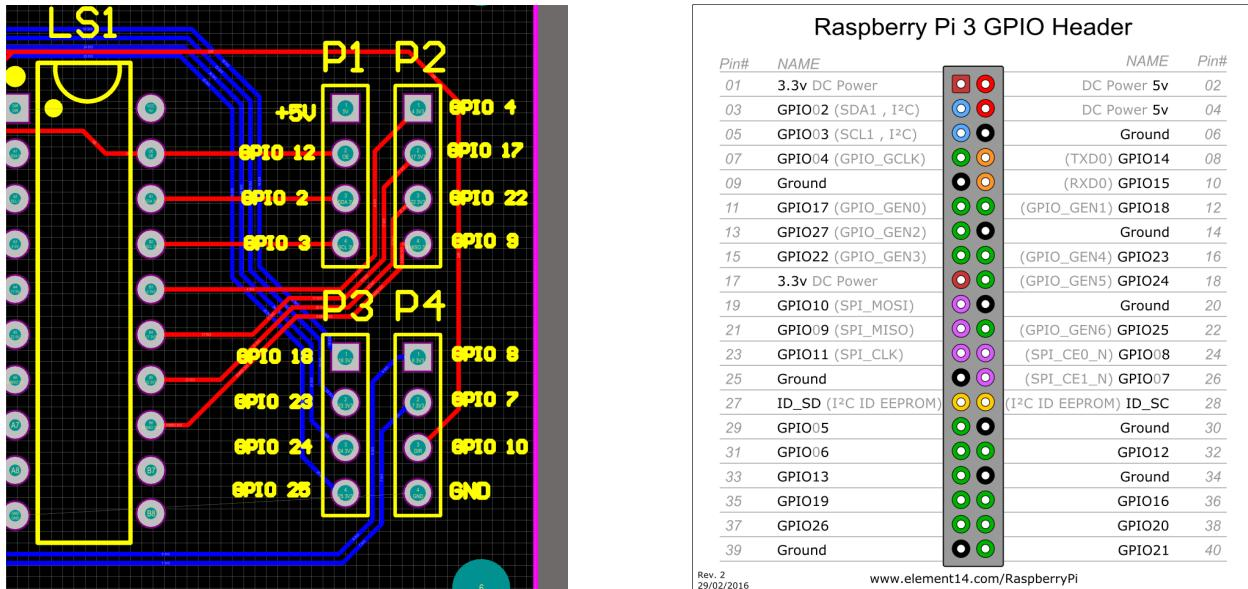

Figure 32: Raspberry pi to Logic Shifter board
The Logic Shifter PCB is not included in the Adafruit project. The following steps describe how to include the Logic Shifter PCB in the wiring and routing. Figure 32 shows the pin connections on the logic shifter, labeled with which pin they connect to on the Raspberry Pi. We suggest putting the logic shifter board in the 3D printed head, and routing the wires through the body and up through the PVC pipe "neck".
**\*\*Note\*\*** In Figure 32, the pin labels on the board (left) correspond to the pin NAME and not the physical pin number. For example, GPIO 12 is GPIO 12 and **NOT** physical pin #12.